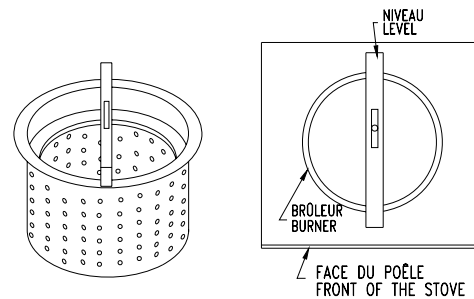

Figure 9B: LEVELLING THE BURNER
- Put the level on the burner's rim, parallel to the sides. (Figure 9B). Screw or unscrew the adjustable threaded legs to level the burner. Use a 7/16" or 10 mm key